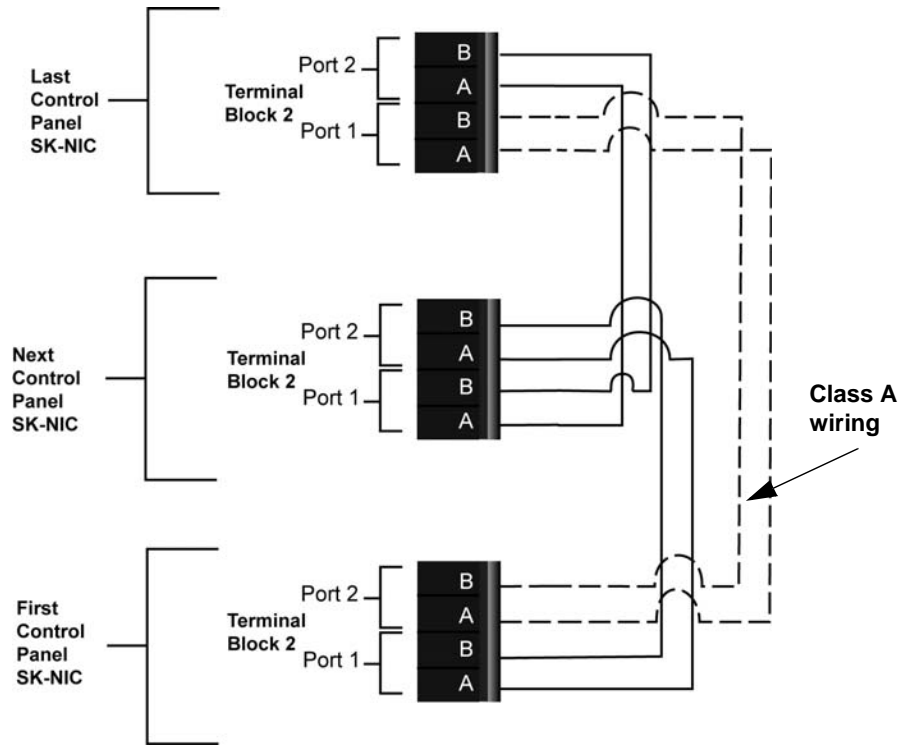
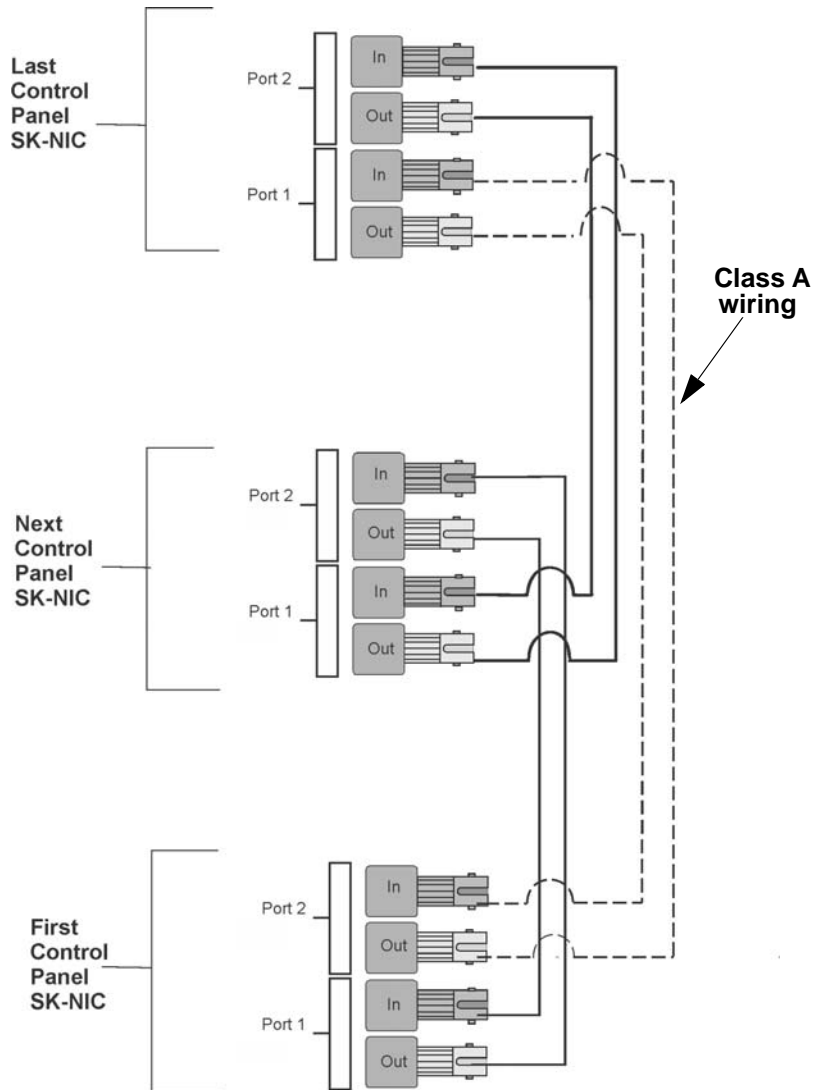
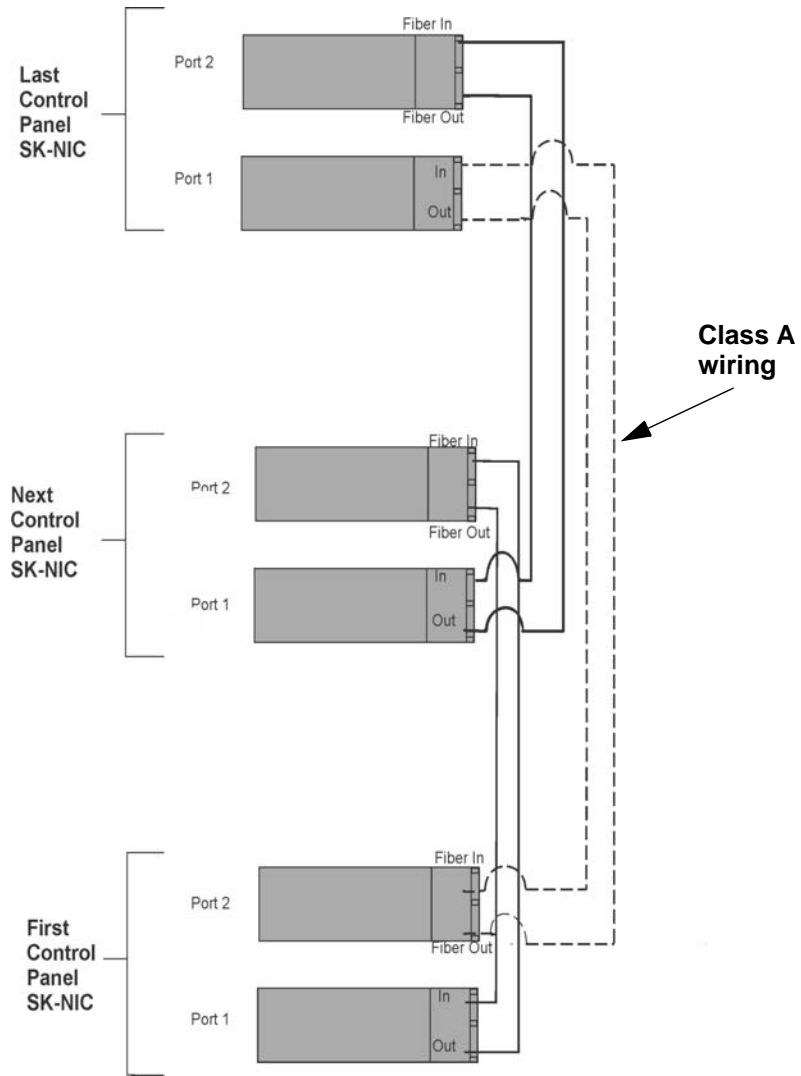
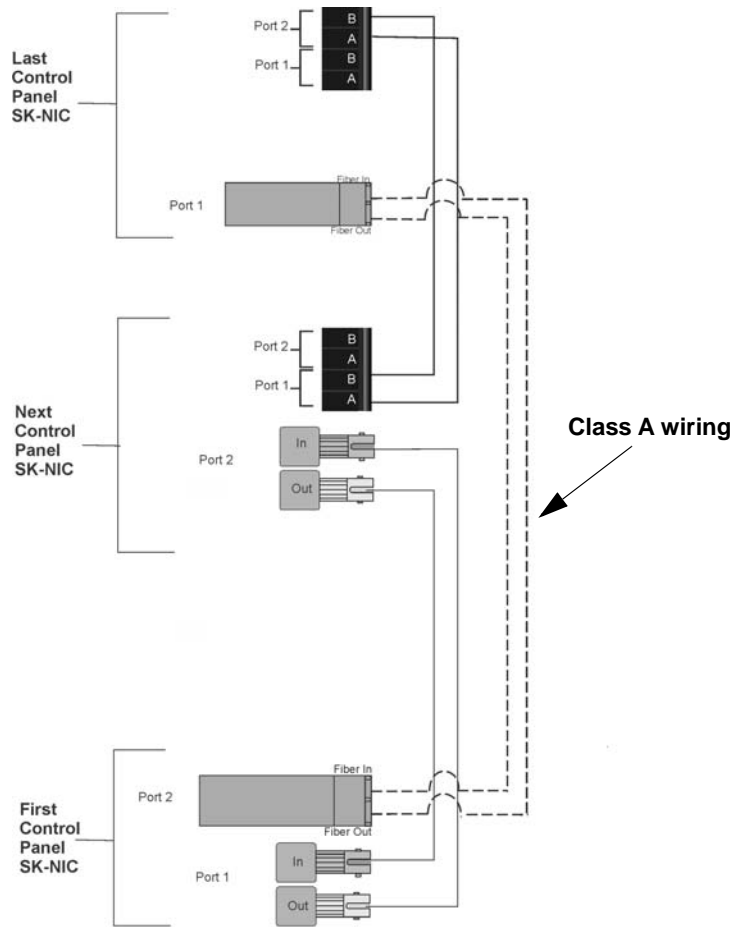

Figure 5-7 Twisted Pair Wiring Configuration
Figure 5-8 Fiber Optic Wiring Multi-Mode Example
Figure 5-9 Fiber Optic Wiring Single-Mode Example
Figure 5-10 Twisted Pair and Fiber Optic Combination Wiring Example
5. Based on the type of data medium chosen, run the twisted pair wiring/fiber optic cable to the next SK-NIC using a class B or class A wiring method. A combination of both medium types can be used. See Figure 5-7, Figure 5-8, Figure 5-9, and Figure 5-10 for SK-NIC wiring examples.
Unshielded twisted pair wiring between multiple panels is shown in Figure 5-7. Class A wiring is shown with a dotted line.
Fiber optic cable between multiple panels is shown in Figure 5-8. Class A is shown with a dotted line.
A mixture of fiber optic cable and twisted pair wiring between multiple panels is shown in Figure 5-10. Class A cabling is shown with dotted line.